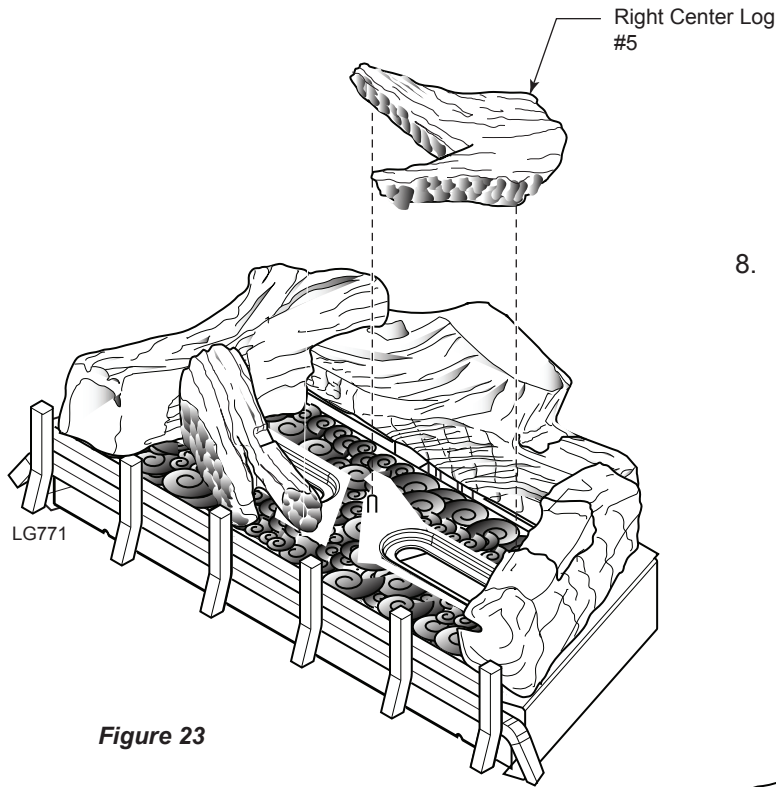

Figure 23
8. Set right center log #5 on center pin to the left of right base log. *Figure 23*